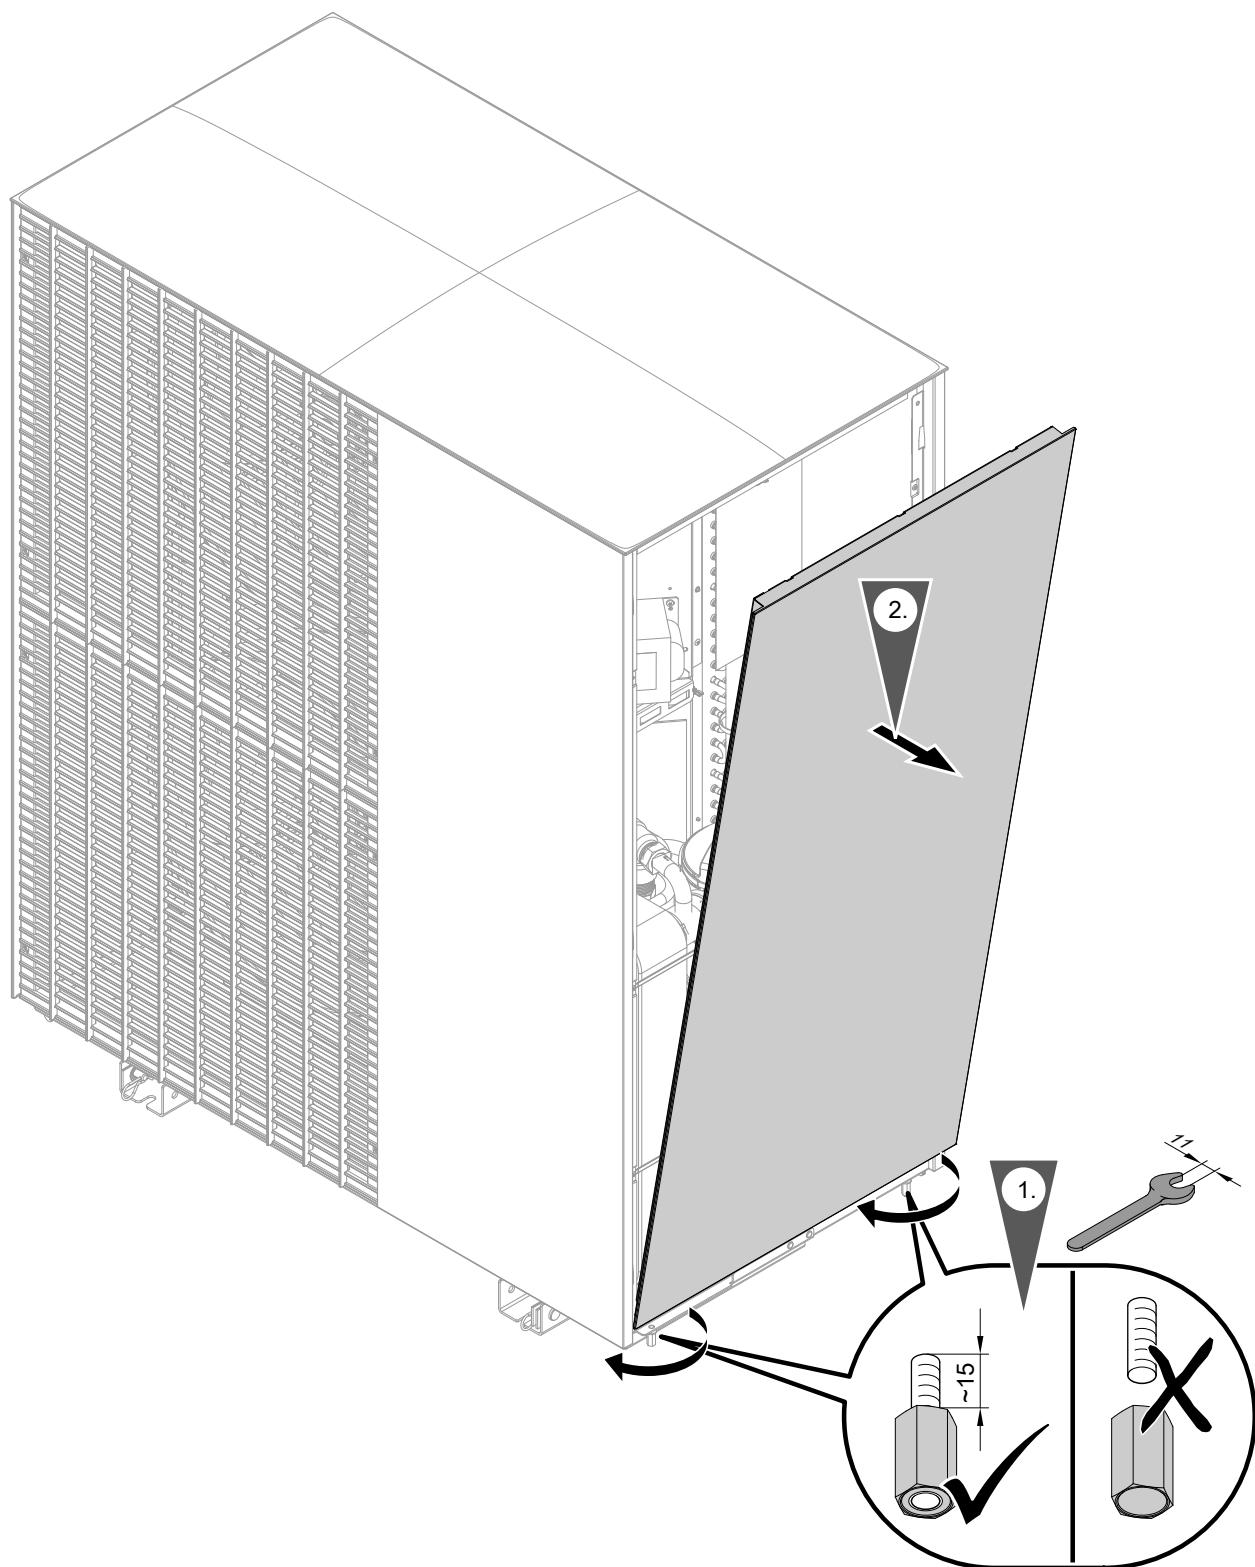

Fig. 97
1. Remove right-hand side casing: See Fig. 97.
3. Remove right-hand side casing: See Fig. 97.